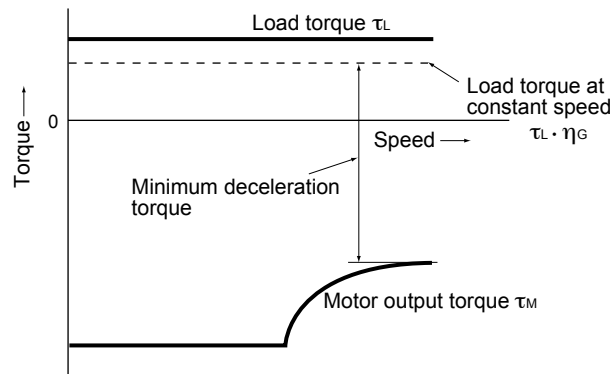

Fig. 4.5 Example study of minimum deceleration torque (1)
② Calculate minimum deceleration torque. (See Fig. 4.5)